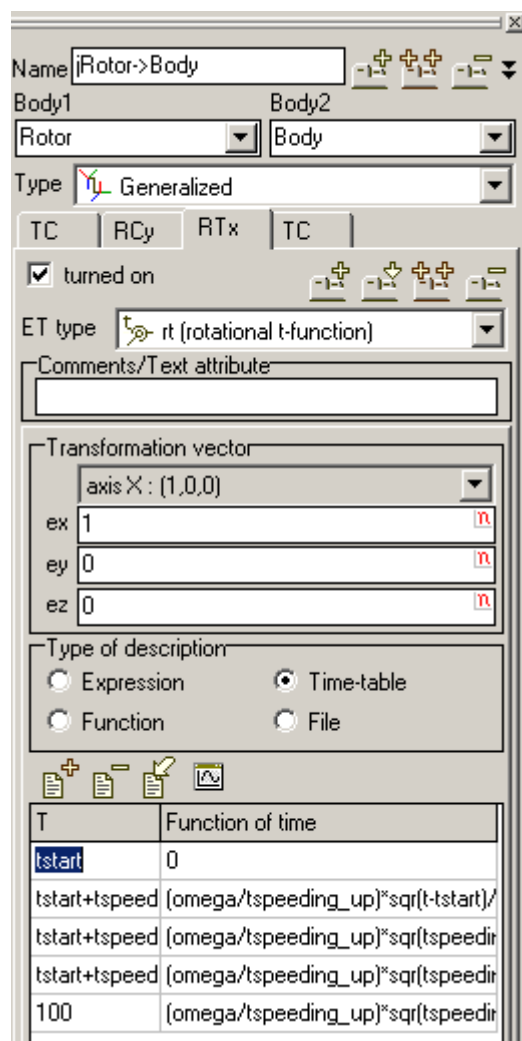

Figure 3.19
3. In the **Inspector** window in the right part select the **RTx** elementary transformation (Fig. 3.19). This time function is set as **time-table** of 5 rows, see table 2 and Fig. 3.19.